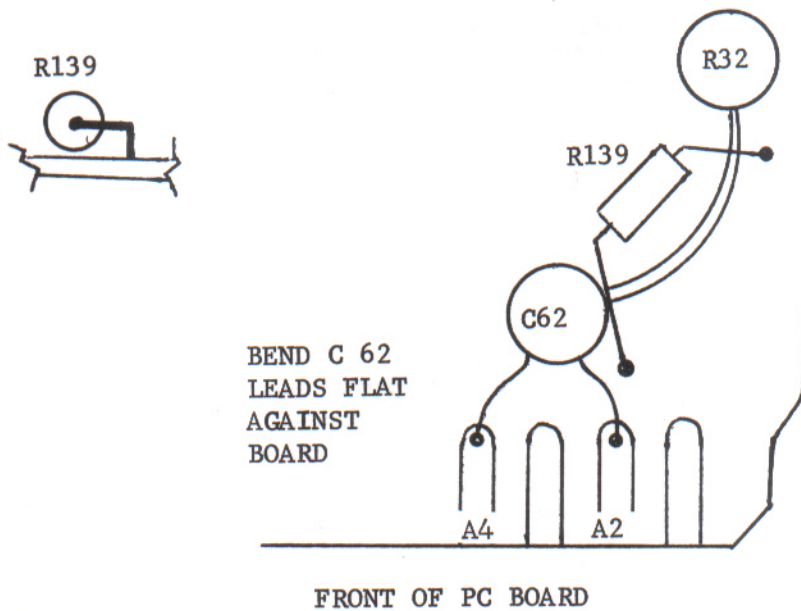

FIGURE 2
3. Install the capacitor, designated C-62 in the holes drilled in the finger contacts (see figure 2). Insure the leads lie flat against the board to prevent shorts to the board brace.
4. Install the resistor, designated R139, as indicated in figure 2. Bend the leads to make contact with the trace on the back of the board and solder. R-139 must be bent as shown to prevent accidental short circuits and to permit the board to be installed in the Recorder.